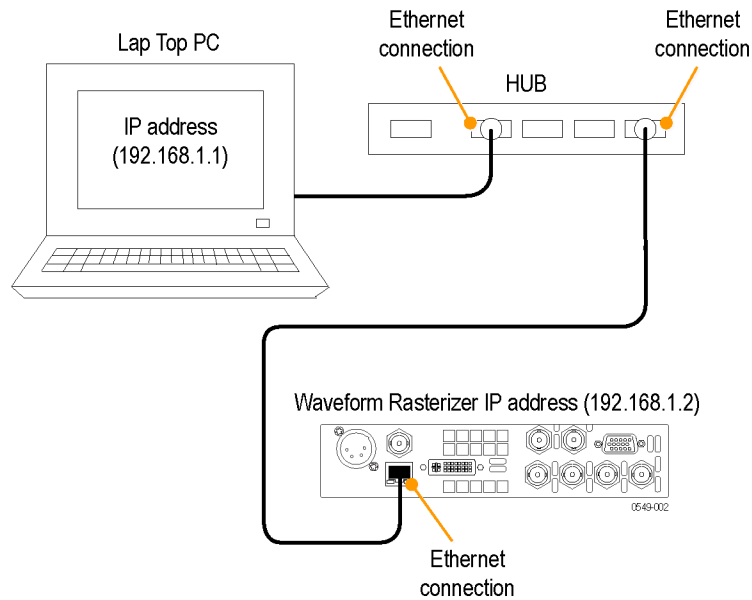

Figure 1: Connecting the instrument to a PC
1. Connect the instrument directly to a PC with an Ethernet cable. The instrument has an auto-crossover feature. You can also use a HUB. (See Figure 1.)